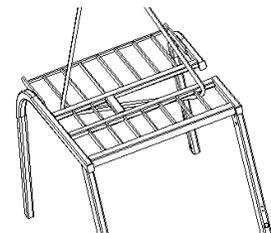

figure 2-76
(2) Roof guard hoisting directions see figure 2-76